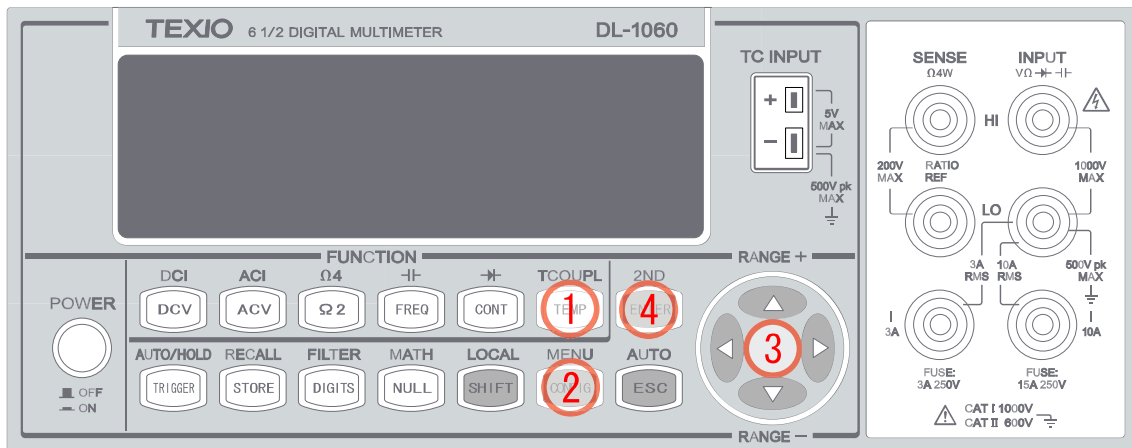

Figure 3-11
1. Press TEMP button to select RTD temperature measurement function as shown in **Figure 3-11**.